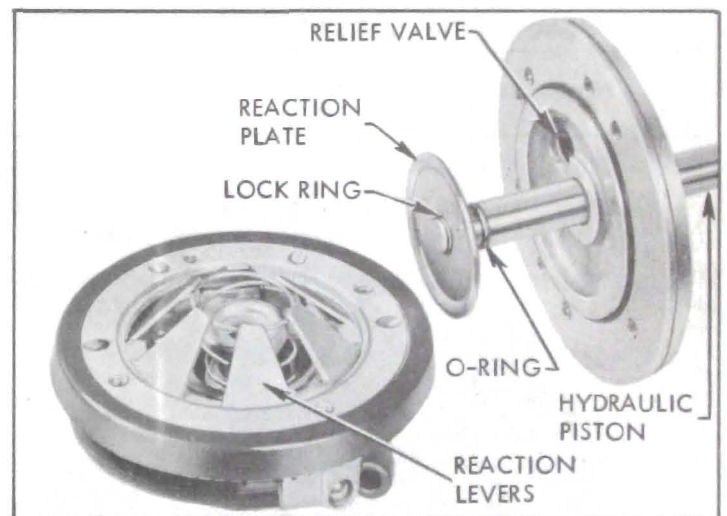

Figure 9-18—Reaction Levers and Related Parts
14. From power piston assembly, remove reaction levers, reaction spring, small reaction plate, and diaphragm spring. See figure 9-18.